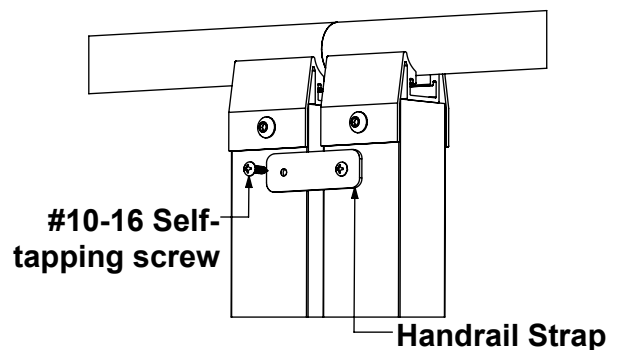

Fig.3.14
3.6 MULTIPLE PLATFORM ASSEMBLY: With both platform bases completely assembled and connected at the seam, (**Fig.3.13**) attach landing handrail strap to the landing post. Position and attach landing handrail strap on center with landing post just below the top handrail using a #10-16 self-tapping screw (**Fig.3.14**).